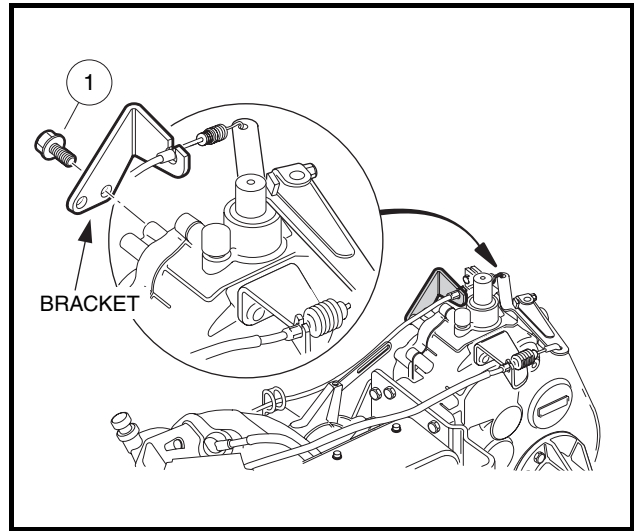

Figure 18-33 Accelerator Cable Bracket
20. Remove screws (1) securing the accelerator cable bracket to transaxle (**Figure 18-33, Page 18-13**).
6. Install the accelerator cable bracket on transaxle case. Tighten the mounting screws to 134 in-lb (15.1 N·m) (**Figure 18-33, Page 18-13**).